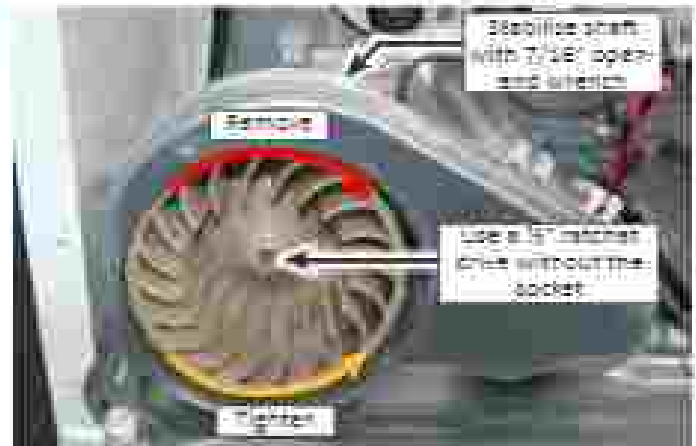

Figure 3 - Remove Blower Wheel
8. Lift the locking tabs on the top and bottom of the motor frame's plug and disconnect the plug from the motor terminals. See Figure 3.